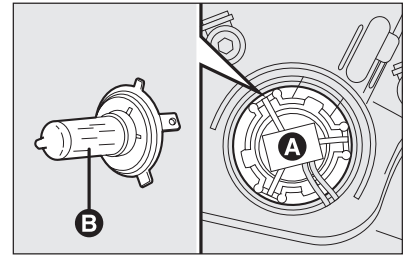

fig. 17
- press on the central electrical connector **A-fig. 17** and withdraw the assembly;